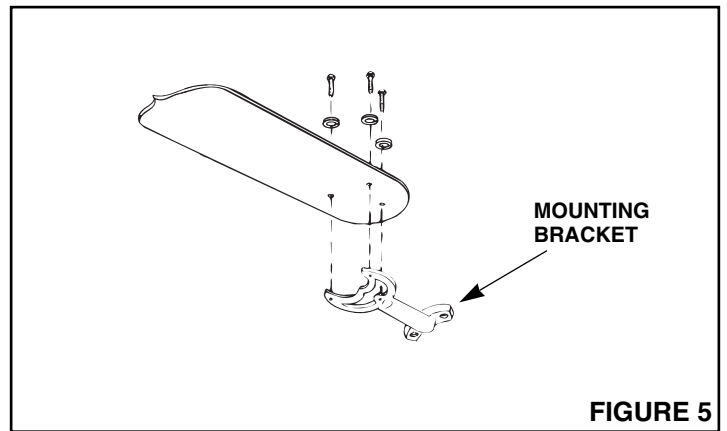

FIGURE 5
1. Refer to Figure 5. Using three screws and washers fasten top and bottom blade bracket to blade as shown.